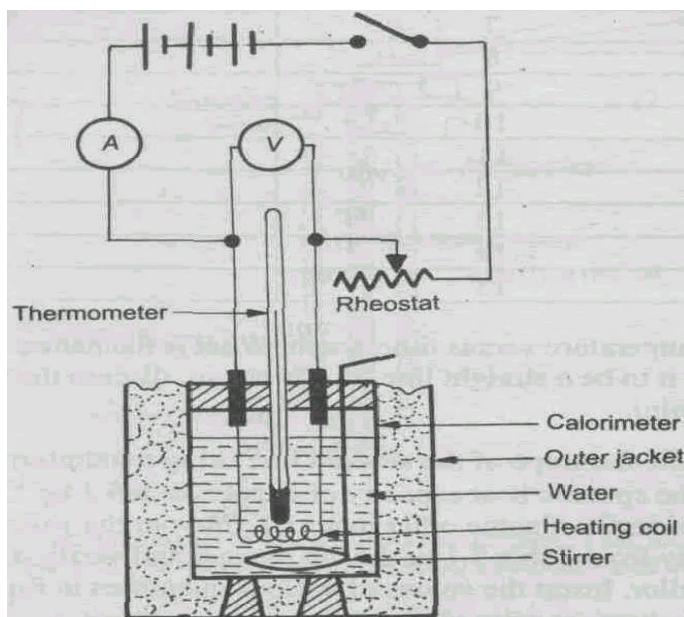

Fig.3.1 Experimental arrangement for specific heat capacity of water
3. Place the calorimeter cup (with water), stirrer and a sensitive thermometer inside the empty can. Complete the circuit as shown in Fig.3.1. You should not switch the power on yet.